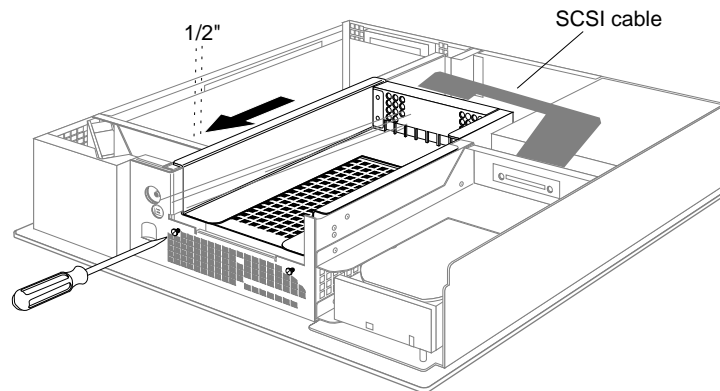

Figure 8-44 Installing the 5-1/4" Drive Tray in the Indigo² Chassis
14. Install the 5-1/4" drive and tray, as shown in Figure 8-44.